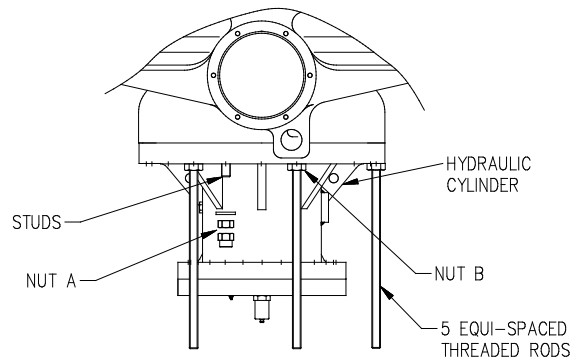

Fig. 6.8.1
4. Remove five mounting studs from hydraulic cylinder at positions equi-distant around the circumference. Insert extra long threaded rod into the holes and tighten them into position. Tighten nuts (B) up against plate. Remove the remaining nuts (A) from hydraulic cylinder. (Fig. 6.8.1).